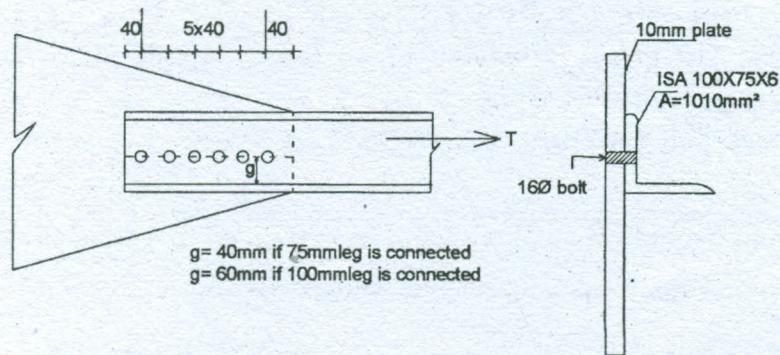

Fig. 3
- (b) A single unequal angle ISA $100 \times 75 \times 6$ is connected to a 10mm thick gusset plate at the ends with six 16mm diameter bolts to transfer tension as shown in Fig. 3. Determine the design tensile strength of the angle assuming that the yield and the ultimate stress of steel used are 250 MPa and 410 MPa.